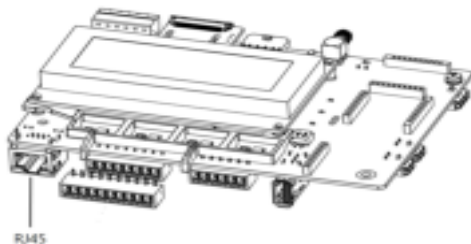

Figure 3: The RJ45 Ethernet connection
- e. Connect the Ethernet connector to the RJ45 port on the communication board (see *Figure 3*).